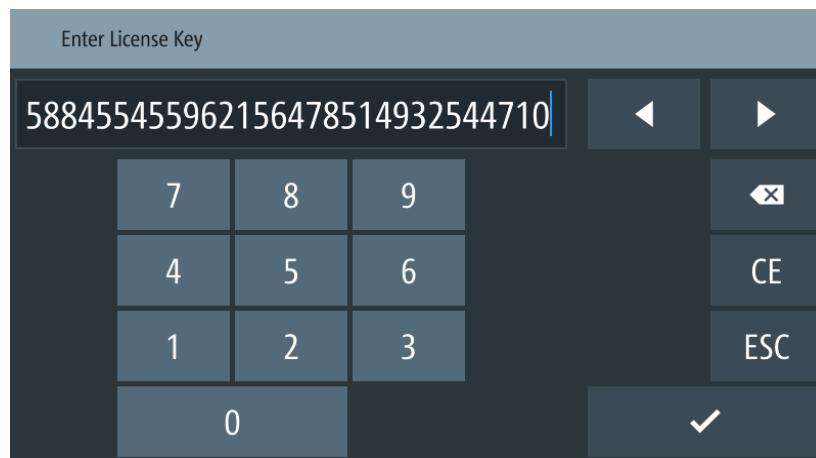

Figure 7-2: License key on-screen keyboard
4. To remove the option, select "Remove" from the license dialog. The R&S NGP800 displays the license key on-screen keyboard. See Figure 7-2.